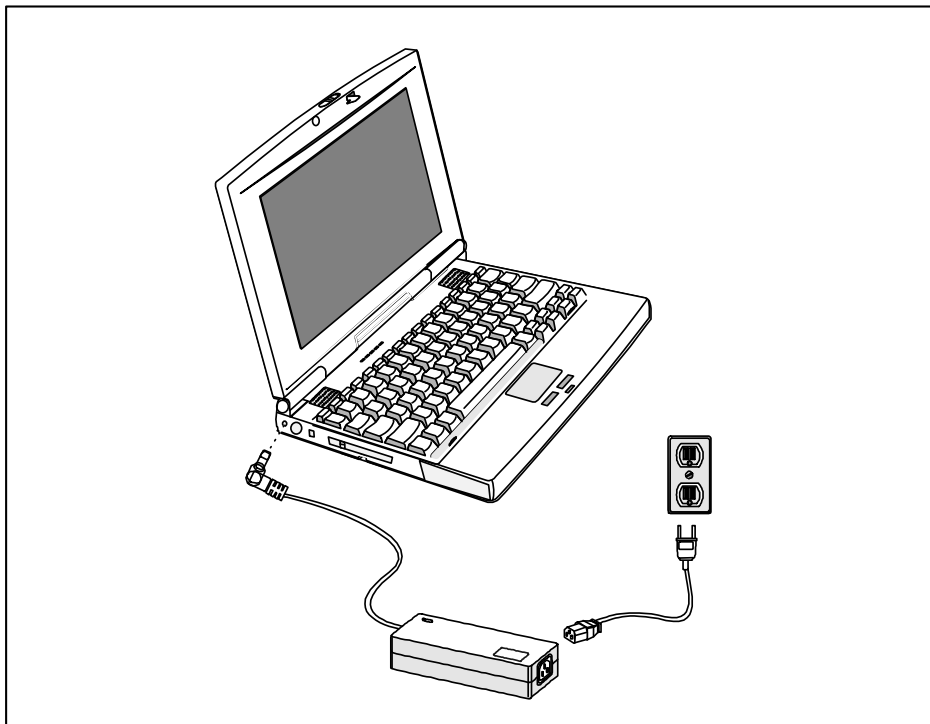

Figure 2-9 Installing the AC Adapter
1. Remove the AC adapter from the packaging. Connect the round coaxial connector supplied with the notebook to the **DC IN** power receptacle on the left rear of the notebook as shown in Figure 2-9.